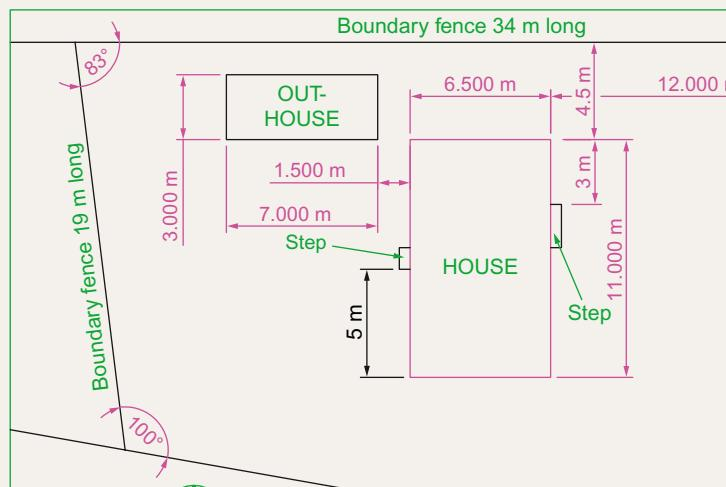

Fig. 16.29 Exercise 2
- Fig. 16.29 is a site plan of a two-storey house of a building plot. Design and construct to a scale 1:50, a suggested pair of floor layouts for the two floors of the proposed house.